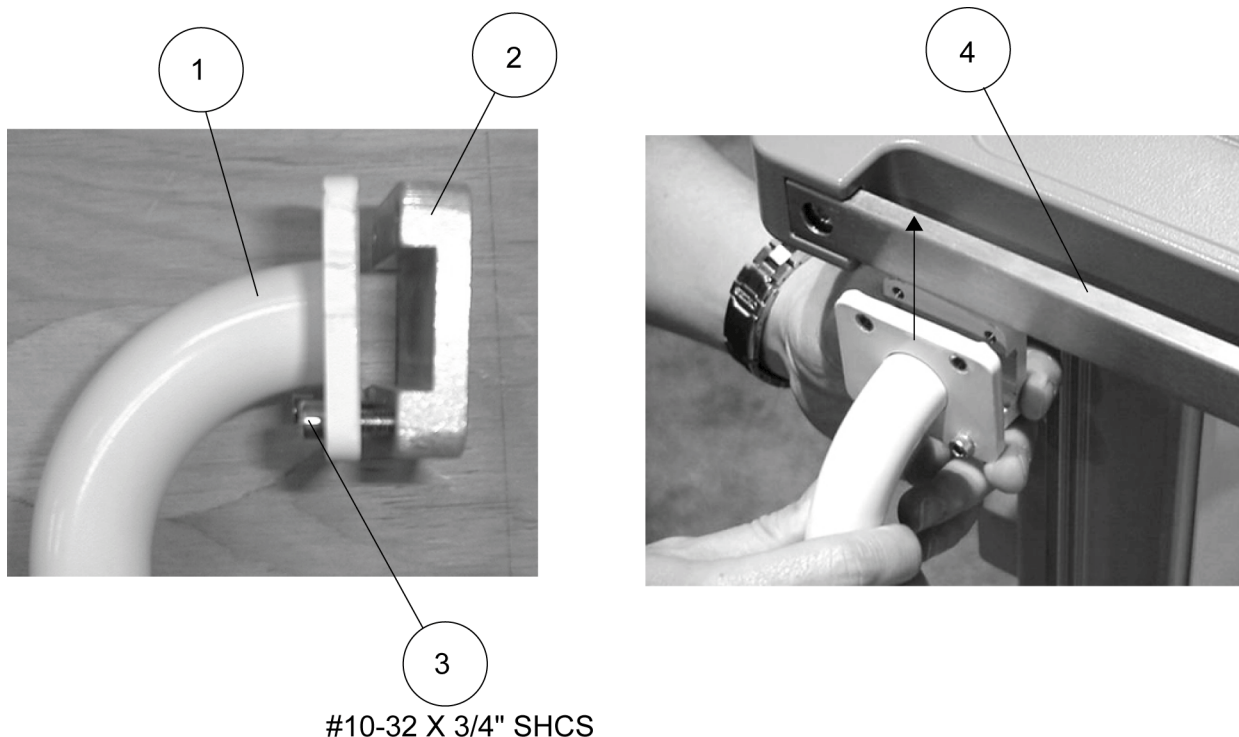

Fig. 1 Handle Attachment to Fabius GS Draeger Rail
1. Attach bottom portion of handle (1) to handle block (2) with two (2) of the #10-32 x $\frac{3}{4}$ " SHCS (3). Guide Handle onto horizontal rail (4) as shown in Fig. 1.